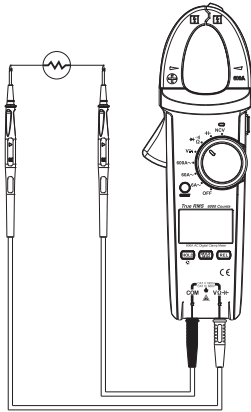

Figure 6
4. Resistance Measurement (See Figure 6)